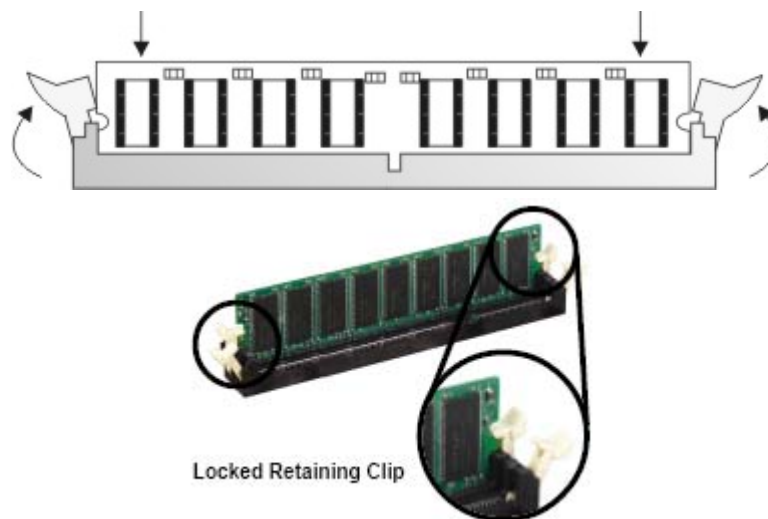

Figure 4-11: Locking the DIMM Module
Step 2: Slowly slide the DIMM module along the plastic guides on both ends of the socket. Press the DIMM module down into the socket until it clicks into position and the two handles have automatically locked the memory module into place (Figure 4-11).